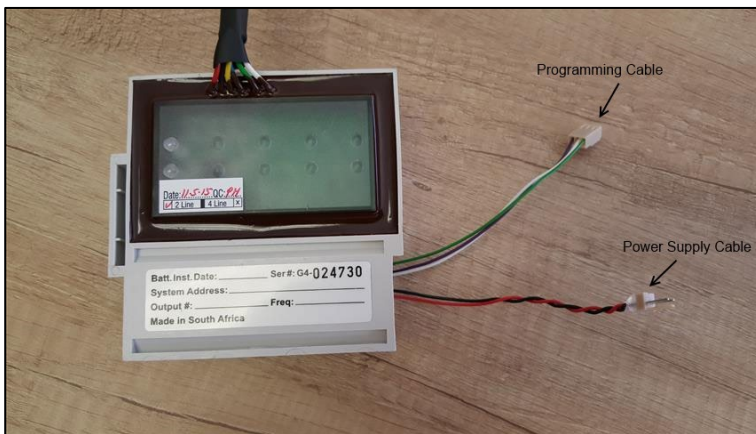

Figure 13: Programming and Power Cables
The Green RTU radio receiver module has two wire looms located in the battery compartment of the module as shown in Figure 13 below. The Green, White and Purple wire loom is used for programming the receiver module using the hand held programmer. The red and black wire look fitted with the connector plug is the module power point that is to be connected to the battery when power is to be applied.
- Referring to Figure 13 above, extract the battery, battery cable and the programming cable out of the receiver modules battery compartment.